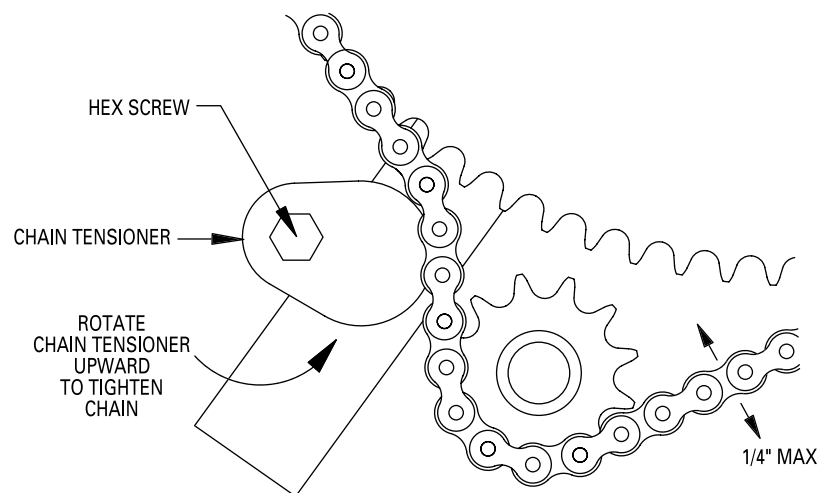

Figure 21
- To adjust, loosen hex bolt with 3/4 wrench and rotate chain tensioner toward chain as shown until chain moves no more than a total of 1/4". See Figure 21 below.